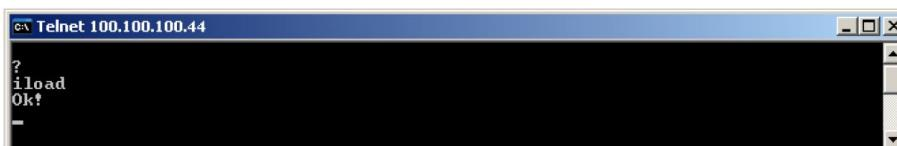

Figure 7.4: Successful iload message
- If the **iload** procedure is successful, you will see the message "OK!" (fig. 7.4).